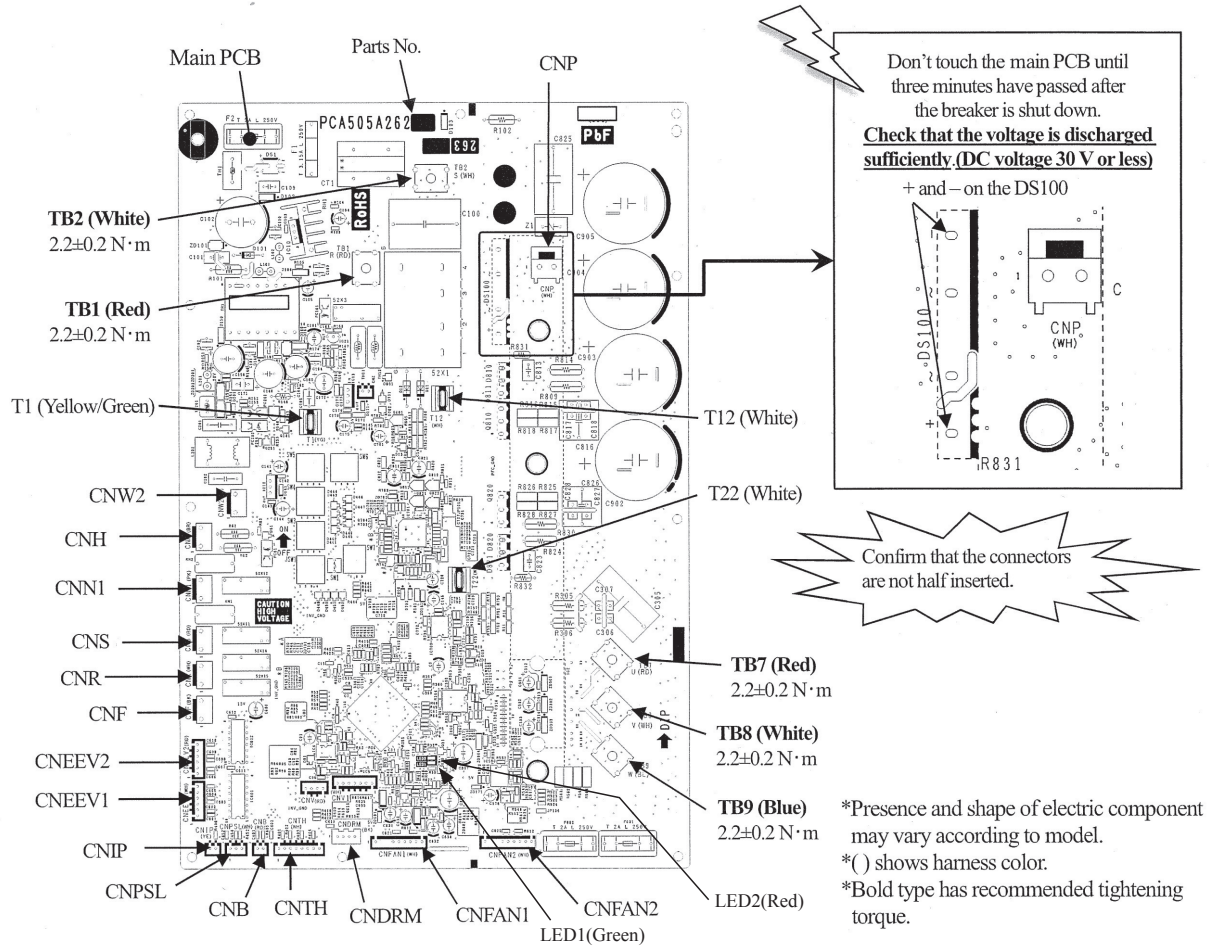

Fig.2 Parts arrangement view of main PCB and voltage measurement points
- c) Disconnect the connectors, faston terminals and round terminals from the main PCB as shown in Fig.2.
- b) Reconnect the connectors, fasten terminals and round terminals to the main PCB as before. (Refer to Fig.2)